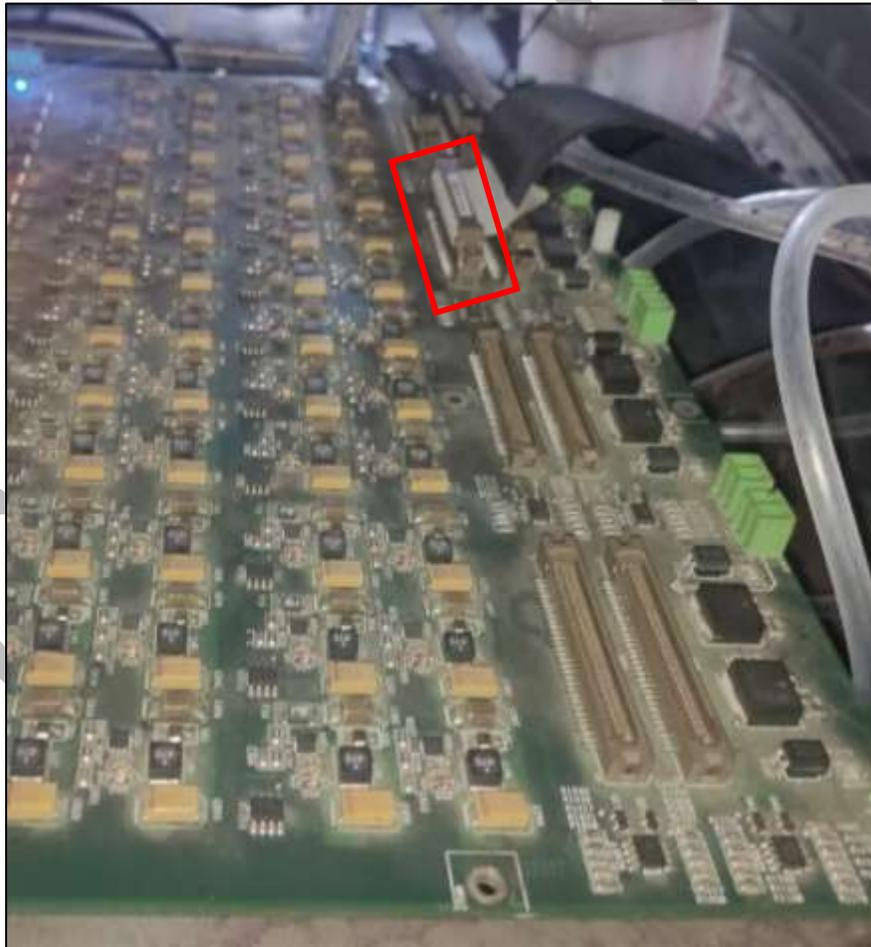

Fig 37: Inserting Head Cable on the Head Board
Step 12: Similarly, insert the second end of the head cable on the Head Board (Refer to Fig 37) as per color sequence. To verify the head cable orientation, please carefully view the highlight area as shown below: